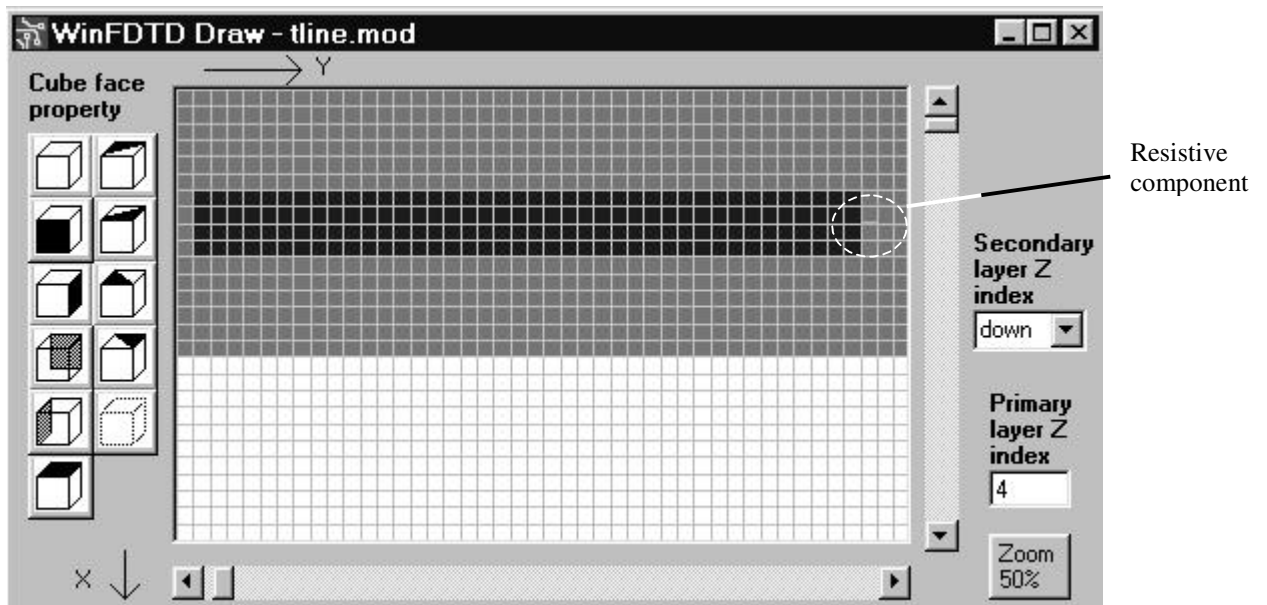

Figure A8.13 – After inserting a resistive component in y direction.
- Finally, click “Insert Component” button to assigned this to $E_y(9,46,5)$ field component. The final result should be as shown in Figure A8.13.